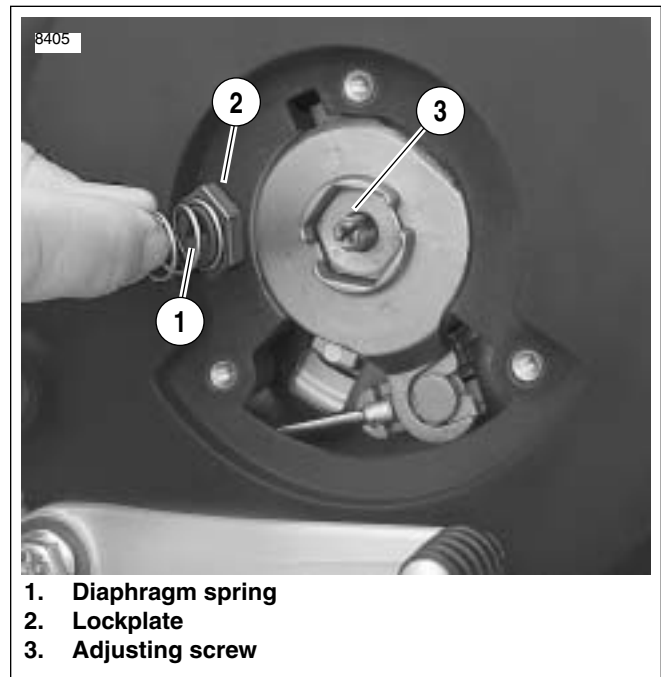

Figure 1-29. Clutch Adjustment (Typical)
4. See Figure 1-29. Remove spring (1) and lockplate (2). Using a flat tip screwdriver, turn adjusting screw (3) counterclockwise until it lightly bottoms.